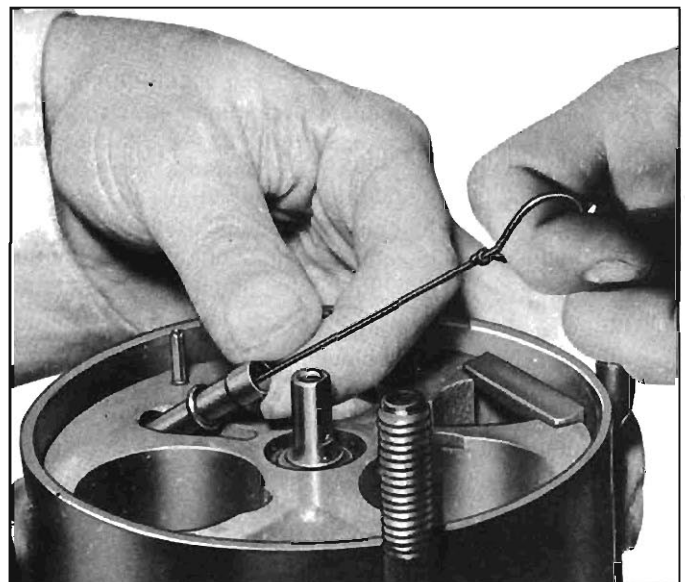

Fig. 11-45—Removing Oil Inlet Tube and "O" Ring
2. Remove the oil inlet tube and "O" ring with J-5139 as shown in Fig. 11-45.